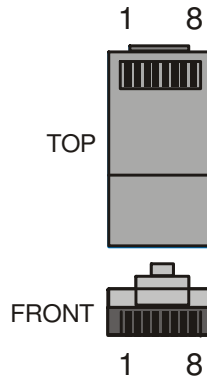

Figure 7: RJ-45 PINOUT
- Connect the ETHERNET port of the **VP-727** to the LAN port of your PC, via a crossover cable with RJ-45 connectors. Table 3 and Figure 7 define the two types of cross cables and Table 4 defines the PINOUT